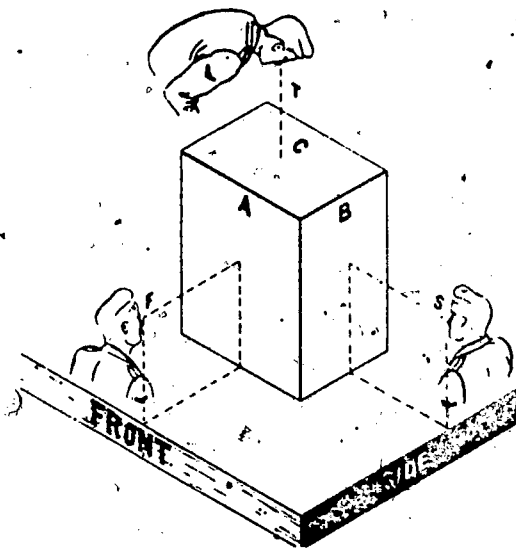
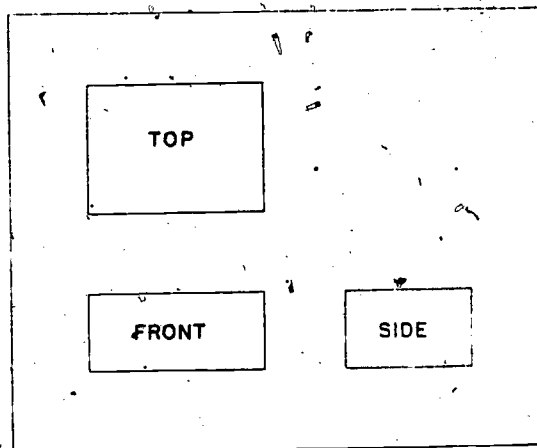

Figure 2. Three views of an object.
Figure 3. Three views of an object placed on one sheet.
7-1. A blueprint is a guide for the heating specialist. It is the copy of a drawing including dimensions of the structure or equipment. It contains most of the information needed by the heating specialist to install a heating system. A blueprint is usually made up of three views: the top view, the front view, and the side or end view. These views are made up of lines and symbols which are visible when the structure is viewed from these particular positions, as shown in figure 2.
7-2. For example, in figure 2, the front detail (A) illustrates how an object would appear to an observer who views it from the front. The side detail (B) shows how the object appears when viewed from the side; the top detail (C) shows how it would look from the top. When all of these views are placed on a single sheet, they are laid out as shown in figure 3. The front and side views are called elevations; the top view is the plan view, or architectural drawing.